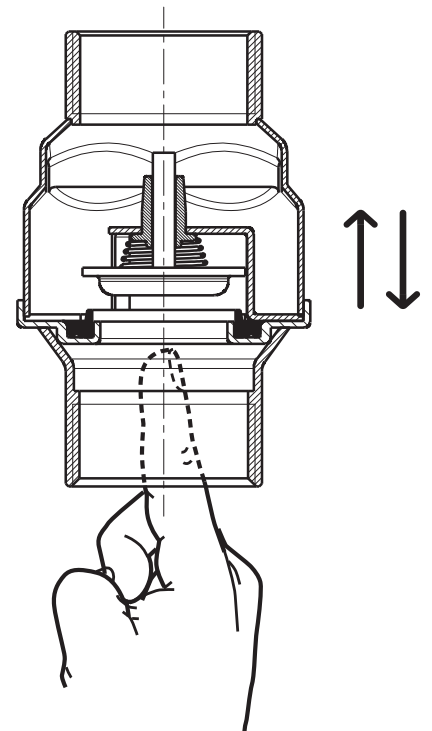

Fig. 1
- Ensure the valve is working properly by pushing the flow control disc from the inlet end in the direction indicated by the arrow stamped on the valve body (Fig. 1). The disc must slide up and, once released, must lower on its own. If this does not happen, check for foreign matter inside the valve and repeat the procedure. If the disc fails to slide smoothly, do not fit the valve.